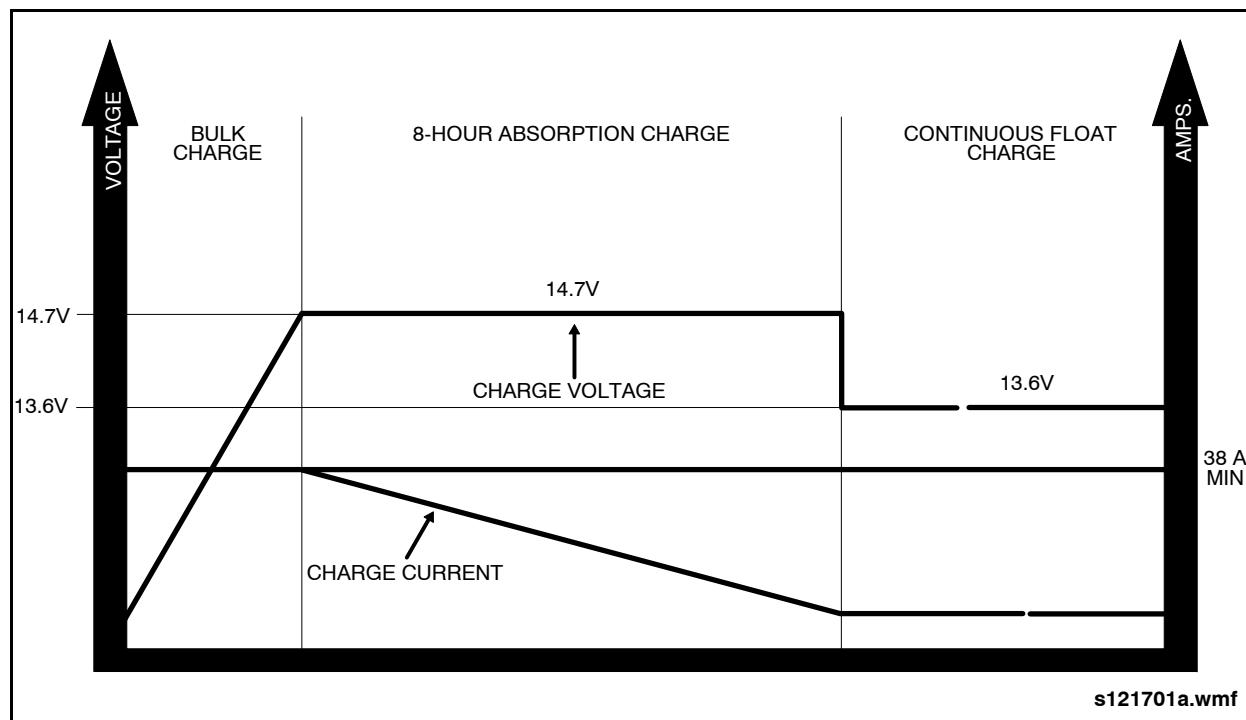

Fig. 9-10: Battery Charging Profile
- Use a 40A rated battery charger with a charging profile that provides a constant current during the bulk charging stage, followed by two stages of constant voltage charge. See "Fig. 9-10: Battery Charging Profile" on page 20.